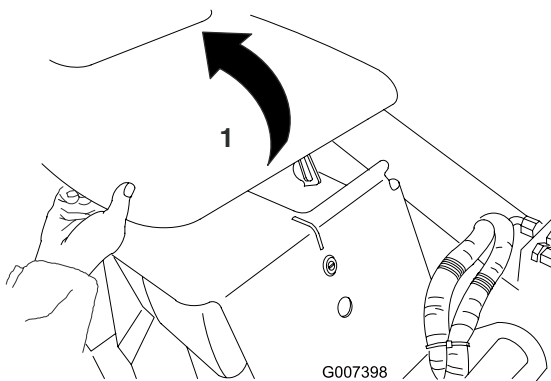

Figure 41
2. Swing the hood up (Figure 41).